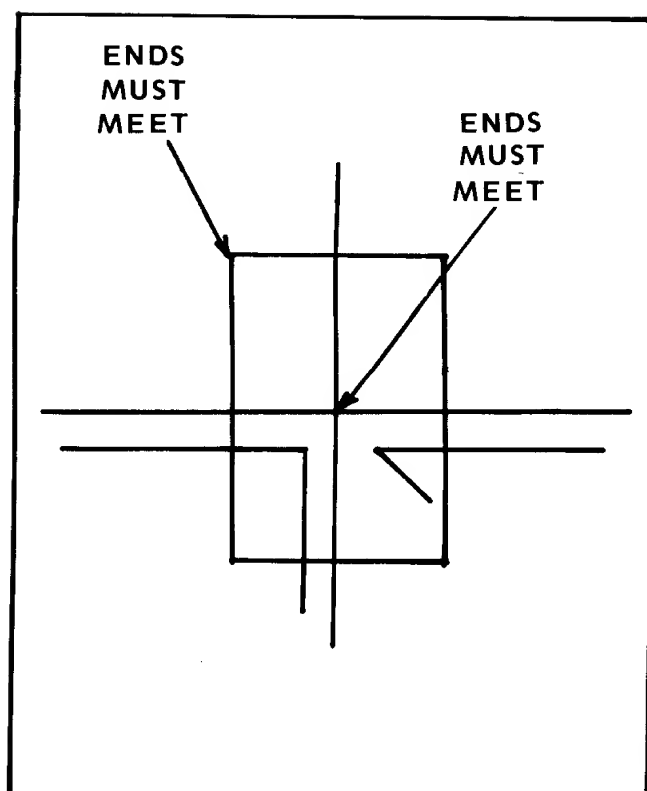

Figure 4-1 Test Pattern Display
- (d) With the left hand pull out the INTERLOCK SWITCH. The screen should display the test pattern of Figure 4-1. If not try once more from step (c).
After recalling the test pattern visually, verify that the display looks close to that of Figure 4-1. If not refer to the following adjustment procedure.
- (d) The ends of the two "L" shaped line segments around the center of the display must meet to form the square of Figure 4-1.